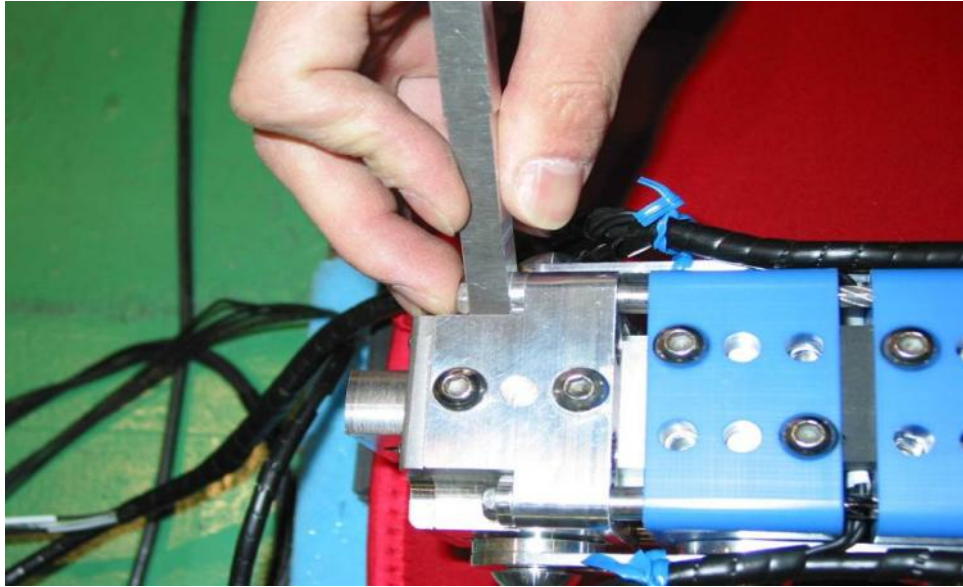

Figure 83 . Stop cable clearance adjustment using setting tool
Step 3: Check the four stop cable clearances passing through the femur are set to 9.1 mm and 10.3 on the tibia. See figure 83 a special tool 133-5112 is used for this;
Step 3: Check the four stop cable clearances passing through the femur are set to 9.1 mm and 10.3 on the tibia. See figure 83 a special tool 133-5112 is used for this.